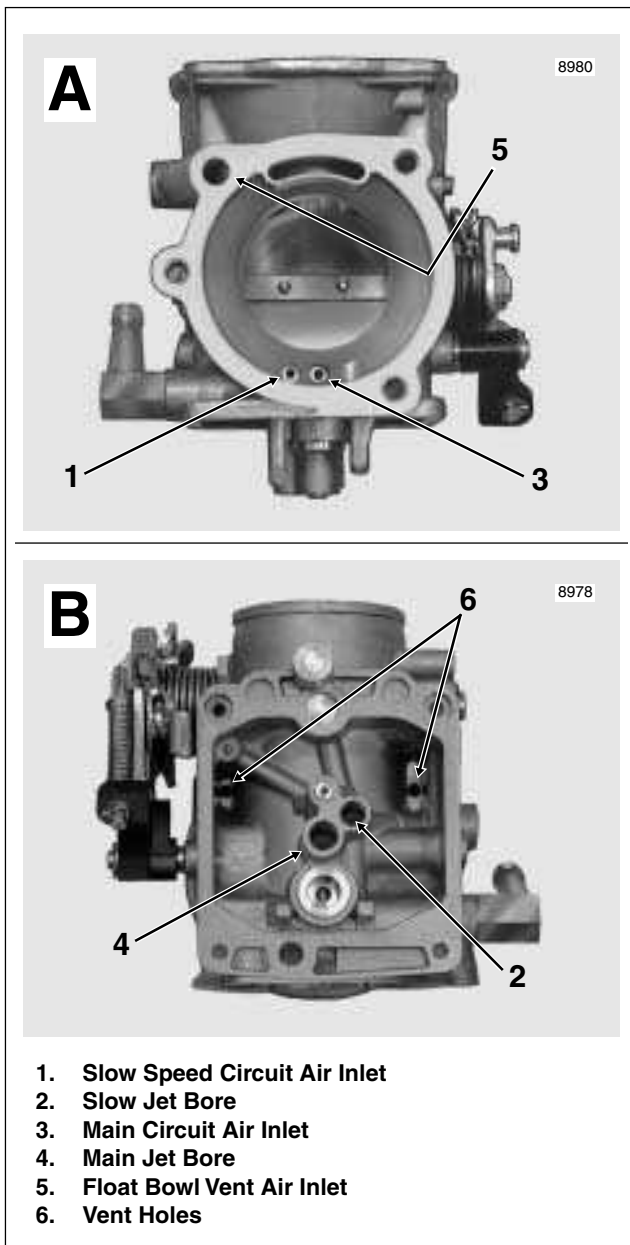

Figure 4-11. Clean Air/Fuel Passages
- a. Spray carburetor cleaner into air inlet hole of slow speed circuit. See A of Figure 4-11. While spraying, verify that solution exits slow jet bore at bottom of carburetor housing. See B of Figure 4-11. Placing gloved finger over slow jet bore, verify that solution exits four pin holes just inboard of the throttle plate, as well as the single pin hole outboard of the throttle plate.
- a. Plugging main jet hole in carburetor throat, spray carburetor cleaner into air inlet hole of main circuit. See A of Figure 4-11. While spraying, verify that solution exits main jet bore at bottom of carburetor housing. See B of Figure 4-11.
- a. Spray carburetor cleaner into air inlet hole of float bowl vent. See A of Figure 4-11. While spraying, verify that solution exits two vent holes in float bowl chamber at bottom of carburetor housing. See B of Figure 4-11.